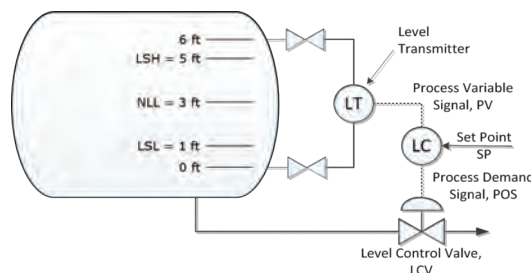

Figure 1: Level Control Logic
Figure 1 shows a simple level control loop. The level transmitter (LT), measures the level and sends a signal proportional to the vessel level to the level controller (LC). The controller instructs the level control valve (LCV) to open or close as needed to keep the level at or near the set point.
The transmitter (XT) accepts the process variable (level in ft) and converts it into a process variable signal (PV) expressed as a fraction of the transmitter range. PV has a value between 0 and 1. For the system shown in Figure 1, the transmitter range will be 0 to 6 ft. Note that the vessel itself has a diameter greater than 6 ft, but the level instrument does not span the entire diameter. If the vessel is operating at the normal liquid level of 3 ft, then the XT signal will be $3/6 = 0.5$.
The vessel shown in Figure 1 has level bridle that is 6 ft tall.